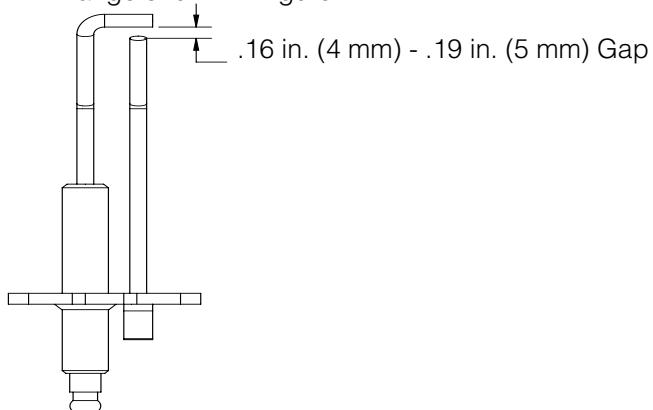

Figure 17-2: Ignitor/Flame Sensor Spark Gap
- Verify ignitor/flame sensor spark gap is within range shown in Figure 17-2.